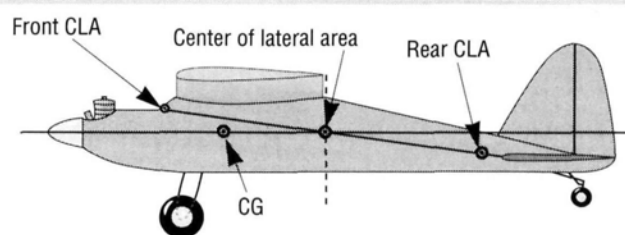

Figure 4.1. Side view of "Cloud-Niner" with estimated CG and CLA locations.
- the line joining the front CLA and the rear CLA sloped upward to the front, then the model would be spirally stable. Figure 4.1 illustrates the layout required by this theory.
Put into practice by many modelers, this theory was proven time and time again and was applied in the early days of rudder-only R/C by such well-known, respected modelers as Hal deBolt and Bill Winter. The latter's beautiful "Cloud-Niner" (outlined in Figure 4.1 and published in the October '91 *Radio Control Modeler*) still reflects
To avoid this, the rudder's area center should come close to or fall on the horizontal line through the CG. The portion below the CG opposes and neutralizes the rolling action of the portion above the CG (Figure 4.1), and the rudder action causes yaw only.